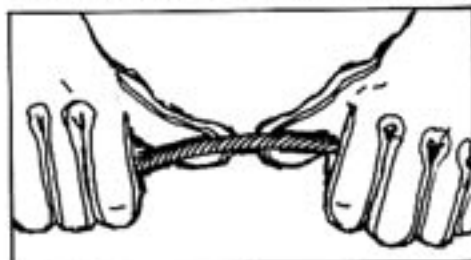

Figure 3
2. Check the cable to insure it moves freely and retracts correctly. If the cable does not pull out smoothly or sticks when retracting, pull all the cable out of the housing and allow it to retract slowly under light tension. While the cable is retracting, check for cuts, kinks, broken strands, excessive wear, foreign substances or other damage. All cables should be checked regularly for signs of wear. A competent person, for example, a safety director, must schedule regular safety inspections based on amount of use and working conditions. (See Fig. 3)